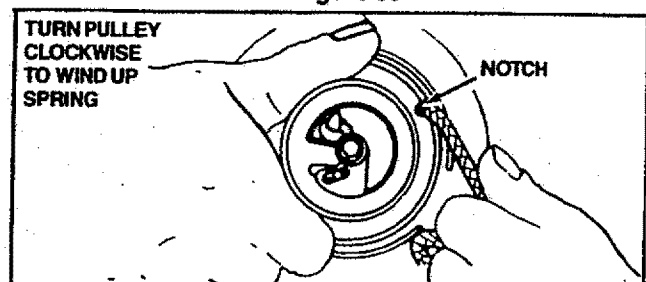

Figure 40
15. Catch the rope in the notch in the pulley. Figure 40.